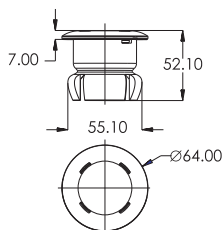

Figure 1
- 1) This underwater light is mounted to the wall in the 2" PVC pipe (Imperial 1/2 Bar, Metric 1.25Mpa), before installation, selecting a suitable PVC pipe. (Note: Due to a variety of different wall thickness PVC pipe, please refer to Figure 1 to choose appropriate size of tube)